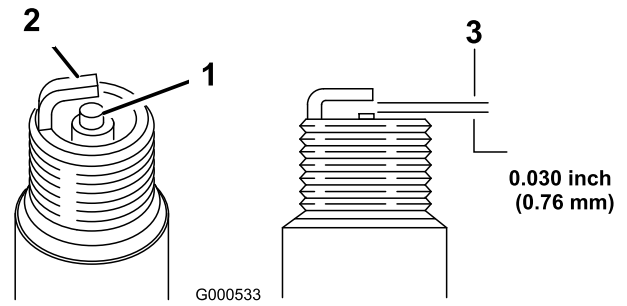

Figure 40
5. Set the gap on the plug to 0.030 in. (0.76 mm) (Figure 40).